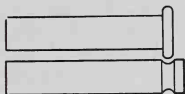

Fig. 5-36. A set of turning rolls.
4. Install the turning rolls on the rotary machine, Fig. 5-36.